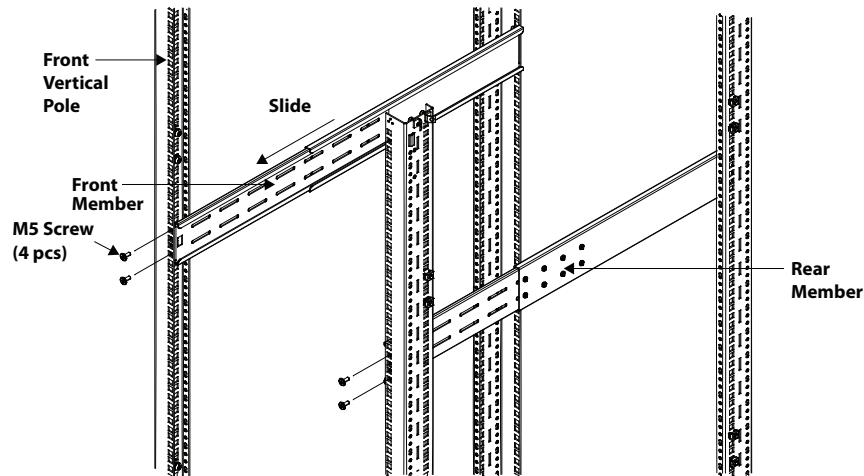

Figure 10: Installing front member of each bracket assembly
5. Extend the bracket assembly by sliding the front member forward until it touches the rack's front vertical rails (adjustable length: 457–813 mm/18–32 in.). Use two M5 screws to fix each front member onto the front vertical rails through the installation holes. Make sure that bracket assemblies are at the same mounting height on all four rack rails, as shown in Figure 10.